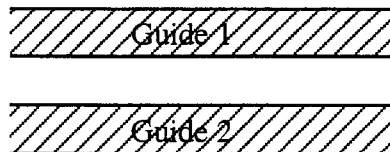

Figure 2.
- b) Figure 2 below shows an integrated optic directional coupler. Describe its operation. What additional features would be required to allow the structure to be used as a switch in the Ti : LiNbO₃ materials system?